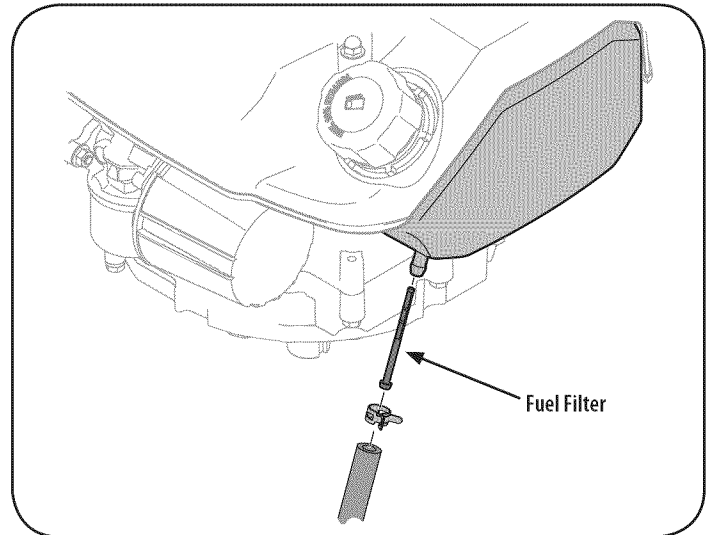

Figure 22
- Remove hose clamp from fuel line and remove fuel line from tank outlet. See Figure 22.